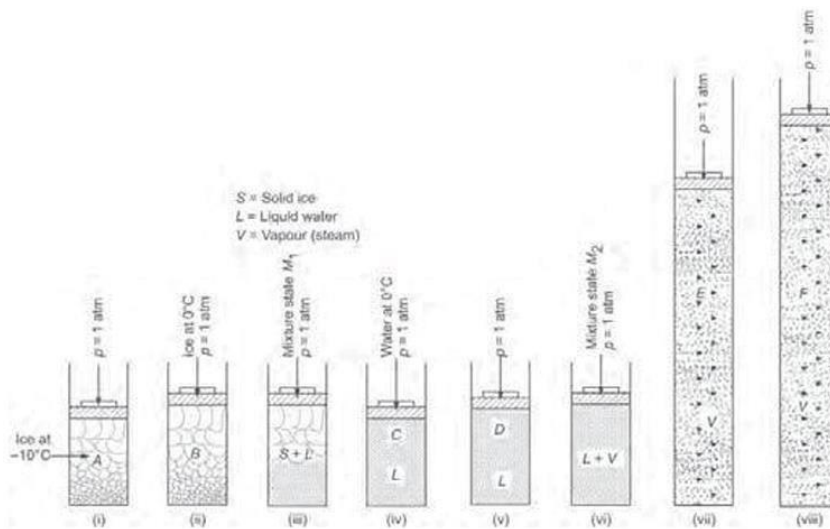

Fig. 3.3 Water in different thermodynamic states
Consider a cylinder fitted with a frictionless piston, which may be loaded to any desired pressure. The cylinder contains 1 kg of ice at -10°C under 1 atm pressure at the state A as shown in Fig. 3.3. The stages of heat addition are illustrated in Fig. below. Process A B
(ii) There is decrease in the specific volume of water, when its temperature rises from 0°C to 4°C and thereafter, the specific volume increases with temperature rise till it reaches the saturation temperature. The piston moves up slightly during this process as shown in Fig. 3.3. (v).
- (iv) The specific volume of vapour is considerable larger than that of saturated water as shown in Fig. 3.3 (vii). At the state E, all the water has been vaporised and this state of steam is called dry and saturated steam. The phase change from liquid to vapour is called vaporisation. Process E F Once the steam becomes dry and saturated, it behaves as an ideal gas and its temperature and volume start increasing with further supply of heat. This steam is called superheated steam.